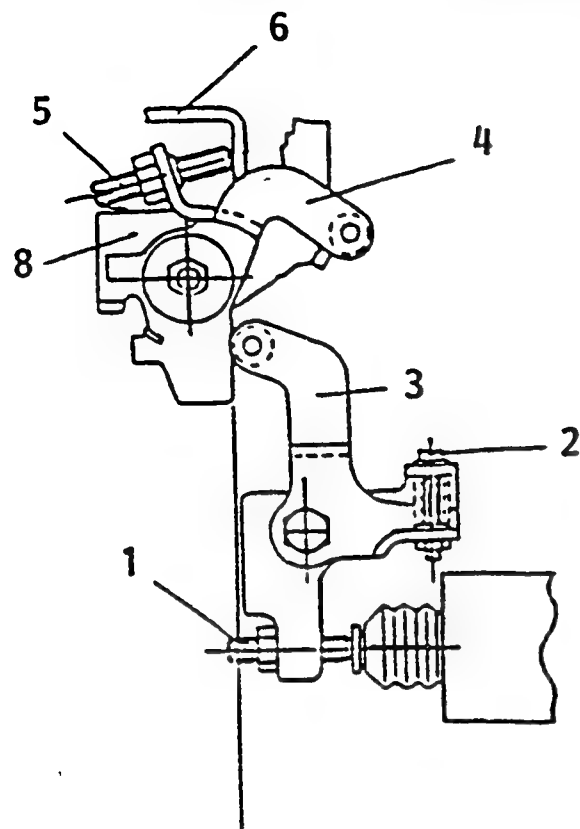

Fig. 40
1. Timer stroke adjustment (Fig. 40)
2. Adjustment of intermediate lever position (see Figs. 40 and 41)
3. Adjustment of CSD lever (see Figs. 40 and 41)